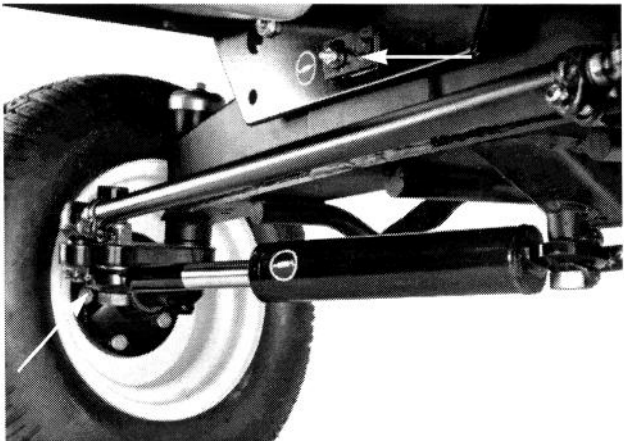

Figure 28
**2-Wheel drive machines only**—cylinder end (2) center pivot (1), spindles (2) (Fig. 28).